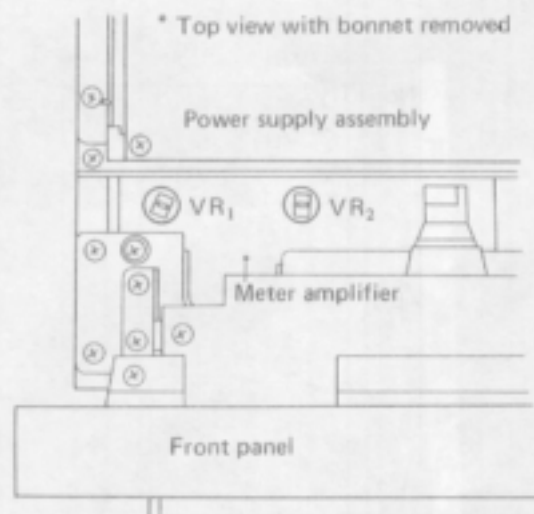

Fig. 15 Meter adjustment
2. Connect an AC voltmeter to speaker output terminal (A).
4. Adjust VR1 (L) and VR2 (R) for a meter indication of 0dB, as shown in Fig. 15.